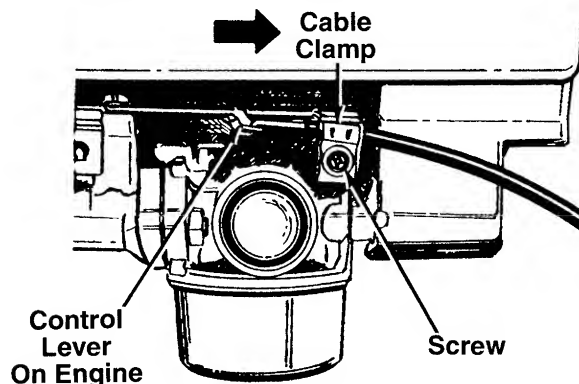

FIGURE 13A.—Briggs & Stratton Engines
1. Remove the screw shown in figure 13A. Remove the cable clamp from the cable.